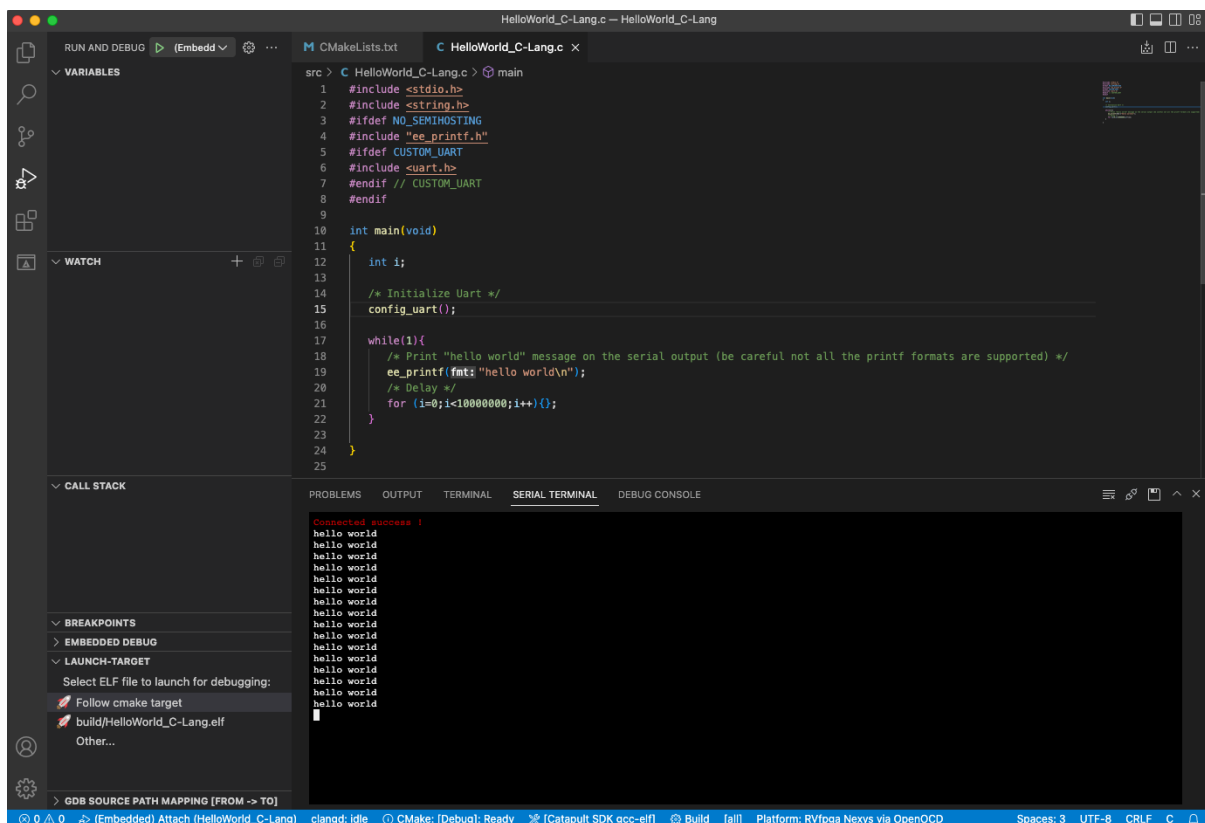

Figure 57. Execution of the program
9. Continue execution by clicking on the Continue button . The serial monitor repeatedly prints the message *hello world*, as shown in Figure 57.